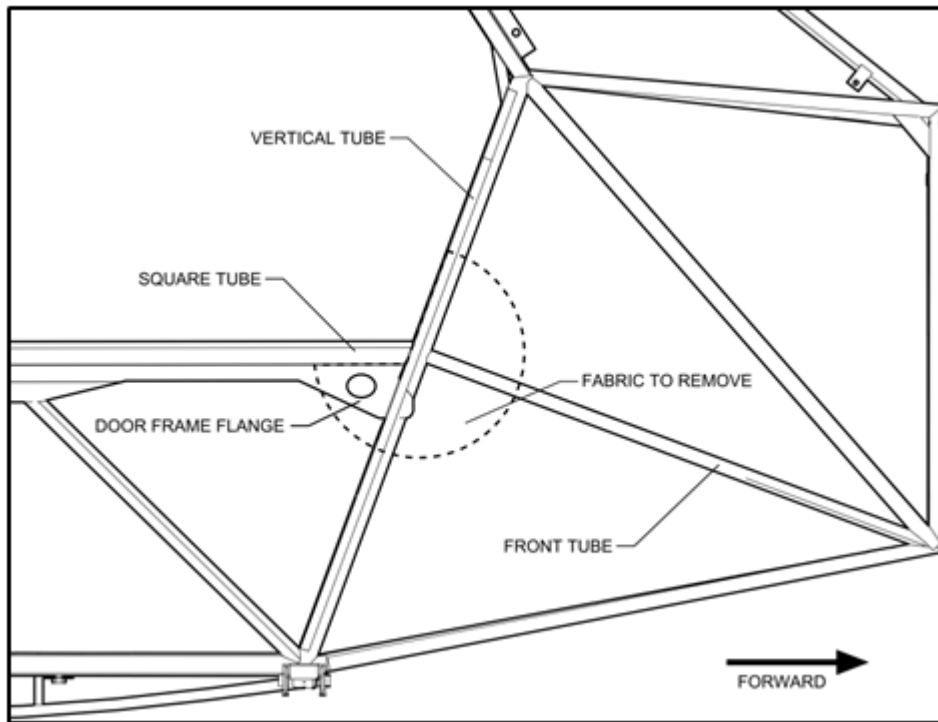

Figure 1 – Fabric Cutout, View From Right Side
4. In order to access the work area, cut and remove the fabric section shown in Figure 1. The section should be large enough to access the tubing several inches away from the broken junction.